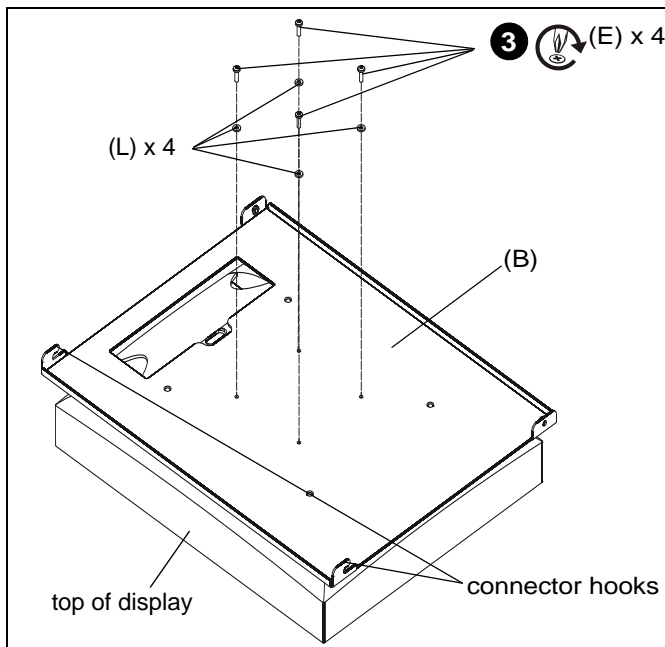

Figure 4
2. Lay faceplate (B) on top of display making sure the connector hooks are facing up and are the top of the display. Four elevated buttons on back of display should match up with four outer holes on faceplate. (See Figure 4)
3. Install four 4 x 12mm Phillips pan machine screws (E) through four 4mm flat washers (L), faceplate (B) and into back of the display. (See Figure 4)